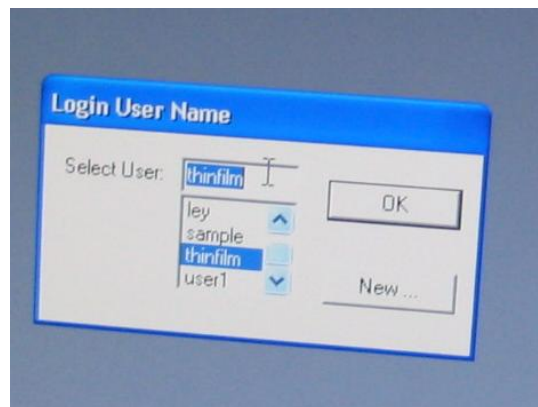

Figure 8: User Login. Select a user or create a new one.
2. Select a user name or create a new user (see **Figure 8**).
4. Select a user name or create a new user (see **Figure 8**).